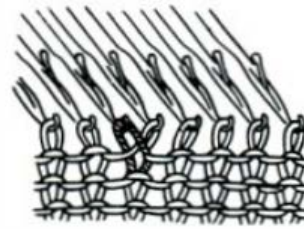

Fig.62
- 3) Pick the neighboring lower stitch onto the empty needle. (See Fig. 62)
Raise the neighboring lower stitches to the empty needles. (as in Fig. 62)